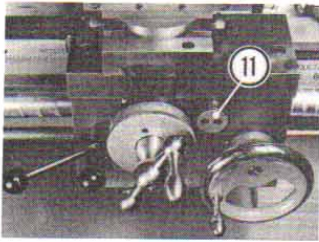

Fig. 23
Section of either longitudinal or cross feed functions is controlled by the selector knob No. ⑩, Fig. 23.